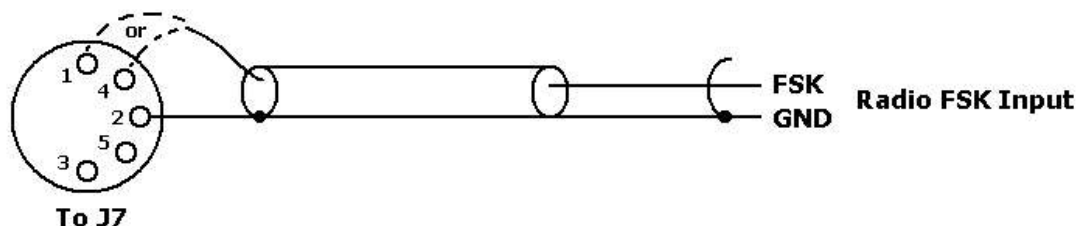

Figure 2-4 Connector J7 FSK Connections
2. Connect the FSK lines from the PK-232 to your radio's FSK input in accordance with your radio's requirements. See Figure 2-4 below.